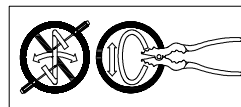

Fig.3
CONNECTING THE WIRES (Fig.3)
15. Connect the electrical wire as shown in figure 3, making sure that all wire connectors are secured. If your outlet has a ground wire to it (green or bare copper), connect the fixtures ground wire to it. If the junction box has no ground wire, attach the bare copper fixture wire to the green ground screw (Screw: #8-32*3/8"L) on the crossbar. Tuck the wire connections neatly into the ceiling junction box.